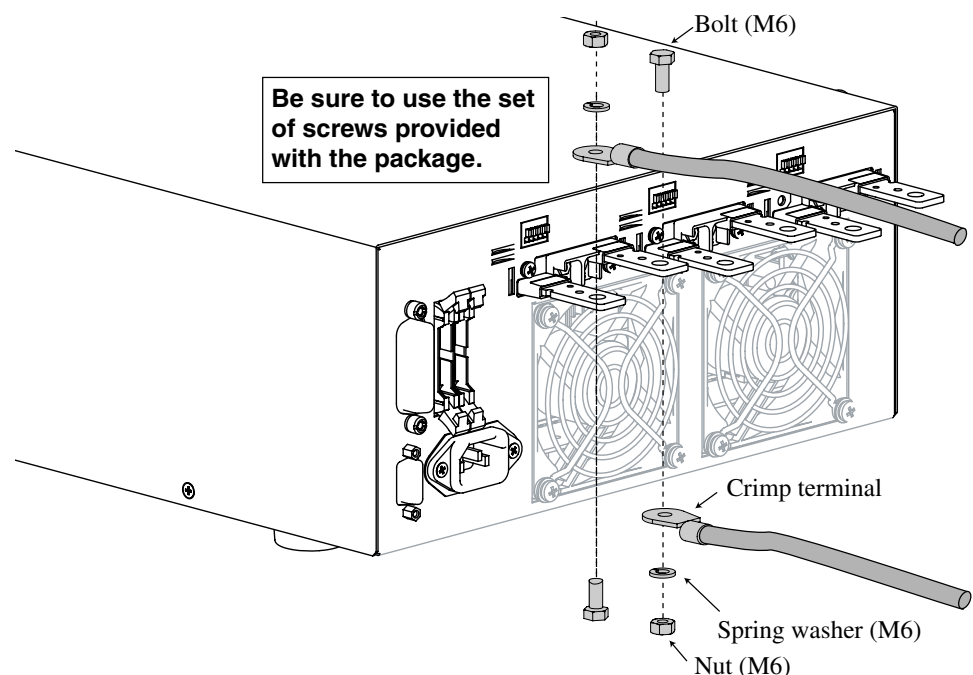

Fig. 2-11 Connection to the load input terminal on the rear panel
3. Connect the load wire to the load input terminal on the rear panel (Fig. 2-11).